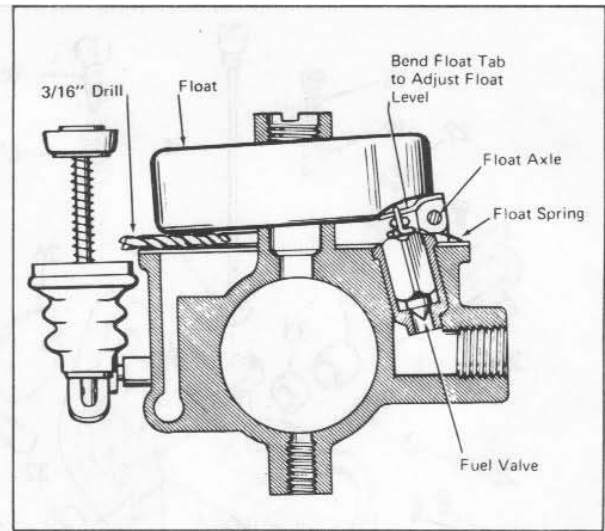

Figure 3-77
1. Position throttle return spring (29) on throttle shaft. Slide throttle shaft and lever (28) into seal retainer (31) and seal (33). Insert shaft in throttle shaft hole from side shown. Guide shaft into hole on opposite side of bore and press seal and retainer firmly against shaft hole boss.
2. Slide seal (32) and retainer (30) over end of throttle shaft and seat firmly against shaft hole boss.
3. Rotate throttle shaft until flat center section faces toward manifold opening. Install throttle disc (26) loosely with screws (27). Snap disc open and shut several times to center disc, and then tighten screws holding the throttle disc seated in the casting. Be sure the disc is held tightly closed.
4. Insert seal (24) and retainer washer (23) in choke shaft hole. Use a small punch to stake retainer in place.
5. Slide choke shaft and lever (22) through retainer and seal and seat shaft in hole in opposite side of air intake. Install plunger and spring (22A and 22B) at this time.
6. Rotate choke shaft until flat center section faces toward intake opening. Install choke disc (20) loosely with screws (21). Snap disc open and shut, and then tighten screws using the same procedure as for throttle.
7. If choke cup plug (25) was removed, install new plug in choke shaft hole on opposite side of throttle body.
8. Place throttle body with fuel bowl side up and install bowl to body gasket (15).
9. Insert fuel valve assembly (14) in fuel valve seat. Assemble float spring (13) and float (12) and install float pin (11). Be sure that fuel valve clip is attached to the float tab. If necessary, bend clip to provide minimum clearance with tab (approximately .010 in.).
10. With the carburetor inverted (inlet needle seated), bottom surface of float should be  $3/16$  in. from gasket surface at point opposite hinge. A  $3/16$  in. drill can be used as a gauge as shown in Figure 3-77. If adjustment is required, use long nosed pliers to bend the tab that contacts the fuel valve. Be careful to avoid damage to the fuel valve or seat.
11. Install throttle stop screw (18) and spring (19). Adjust screw to open throttle slightly but not far enough to uncover the No. 2 idle discharge hole.
12. Install idle mixture needle (16) and spring (17). Screw needle IN until it seats lightly against the No. 1 idle discharge hole, then back it out 1-1/2 turns as a preliminary idle adjustment.
Carefully position the fuel bowl on the throttle body releasing the float spring so that the long end of the spring presses against the side of the bowl (refer to Figure 3-77). Be sure that the accelerating jet fits properly in the hole in the throttle body.